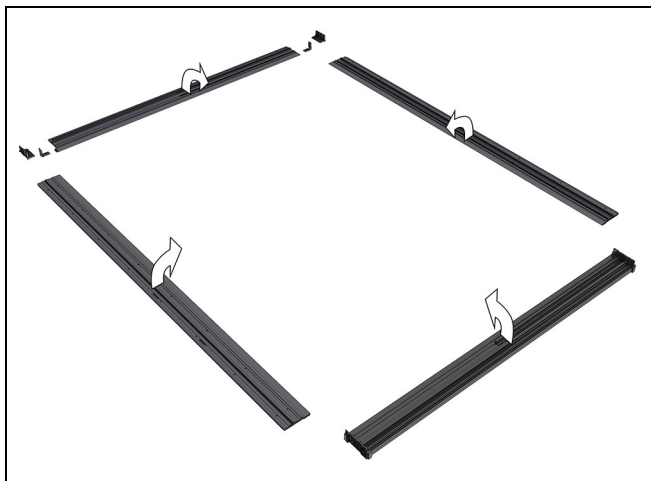

Figure 19
1. Layout all the components on a flat and clean surface. Orient the parts so once they are assembled the **interior** side is up. See Figure 19.